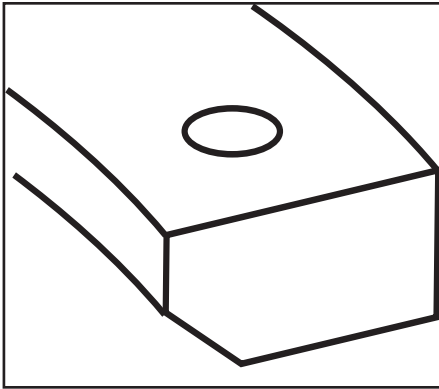

Figure 1
- B- Second compression ring has a darker, charcoal gray finish and slight bevel along inner surface. This ring has a dot. See Figure 1. Install in second or middle groove with dot up.
- 2- Plain cast ring usually goes in second groove. Plain cast type is usually a reverse torsion ring distinguished by an inside diameter bevel on one side of ring and a "dot" or oversize mark on other side. **See Figure 1** above. If two cast iron compression rings are supplied in a set, check to see if one is reverse torsion style ring with dot and bevel. Reverse torsion style ring always goes in second groove with dot up if present.
- 6- If ring has dot and inside diameter bevel, dot goes to top of piston. **See Figure 1** above.